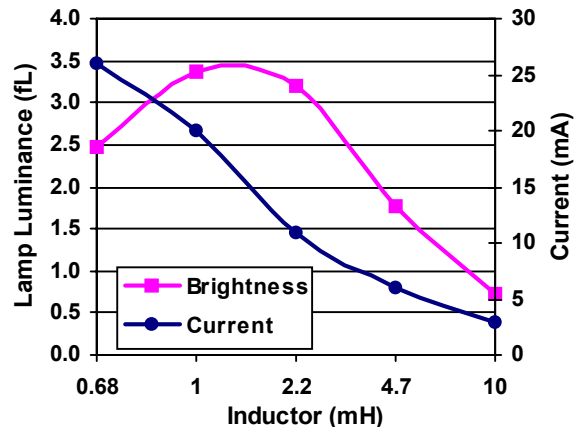

Figure 4: V+=1.5V, Lamp=1in²
The inductor (L) greatly affects the output and current draw of the driver. A careful designer will balance current draw considerations with output performance in choosing an inductor. Figures 4, 5, and 6 show typical brightness and current draw of a D355 circuit with several different inductor values, lamp sizes, and supply voltages. Please note that the DC resistance (DCR) of inductors with the same inductance value may vary with manufacturer and inductor type. Thus, inductors made by a different manufacturer may yield different outputs, but the trend of the different curves are similar. Lamp luminance is also a function of lamp size. In each example, a larger lamp will have less luminance with approximately the same current draw.